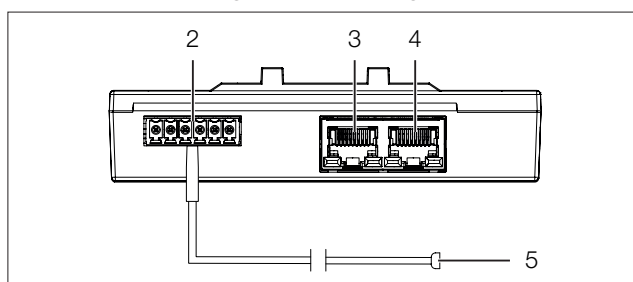

Fig. 3: Rear of the leak sensor
- Connect the sensor cable connector to the universal interface (fig. 3, item 2).
- Use a CAN bus connection cable to connect the electronic unit of the leak sensor to a CAN bus interface on the Rittal embedded device or the neighbouring component on the CAN bus (fig. 3, item 3, 4).
- If necessary, connect another component (e.g. another sensor type) to the second, free CAN bus interface of the leak sensor (fig. 3, item 3, 4).